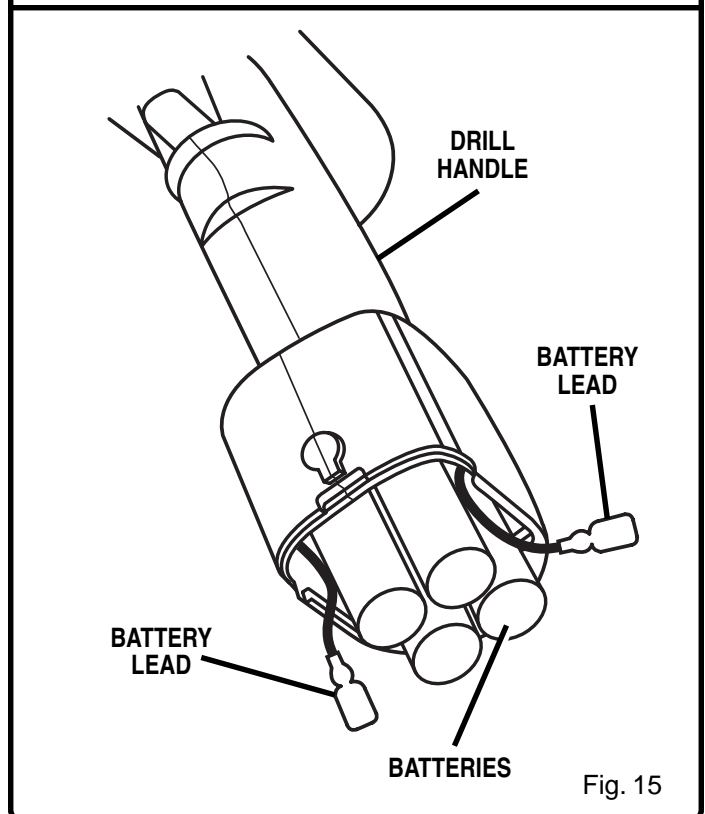

Fig. 15
- Slide battery assembly from drill handle enough to expose leads and battery terminals. See Figure 15. Disconnect leads from battery terminals.